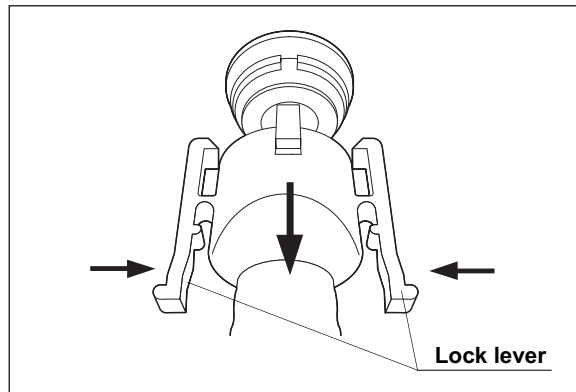

Figure 7.62
15. Hold the lock levers and slowly disconnect the tube (see Figure 7.62).